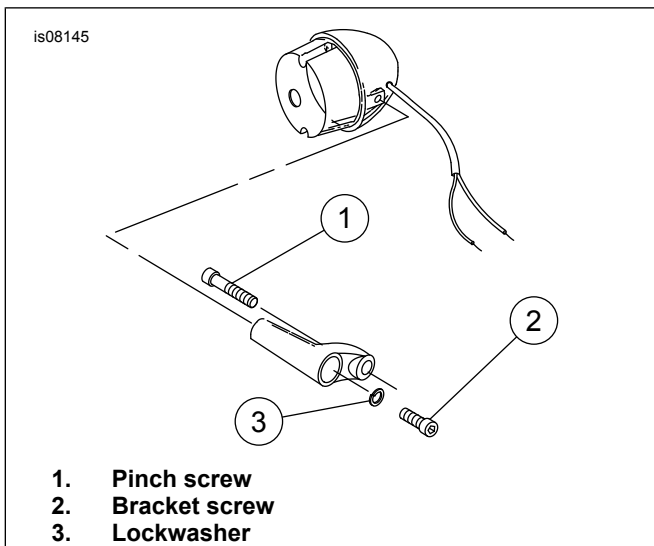

Figure 1. Directional Light Upper Fork Mounting
- a. See Figure 1. Remove the fork tube pinch screw securing the right directional light assembly to the upper fork. Discard screw.